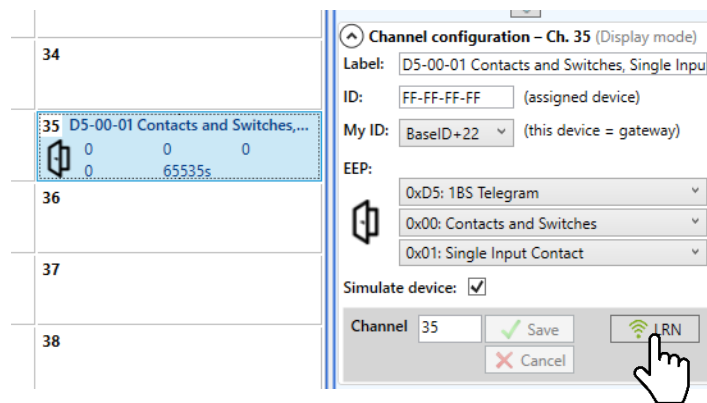

Fig. 5.6 Virtual device – send teach-in telegram
1. Select the channel 35 (Fig. 5.6)